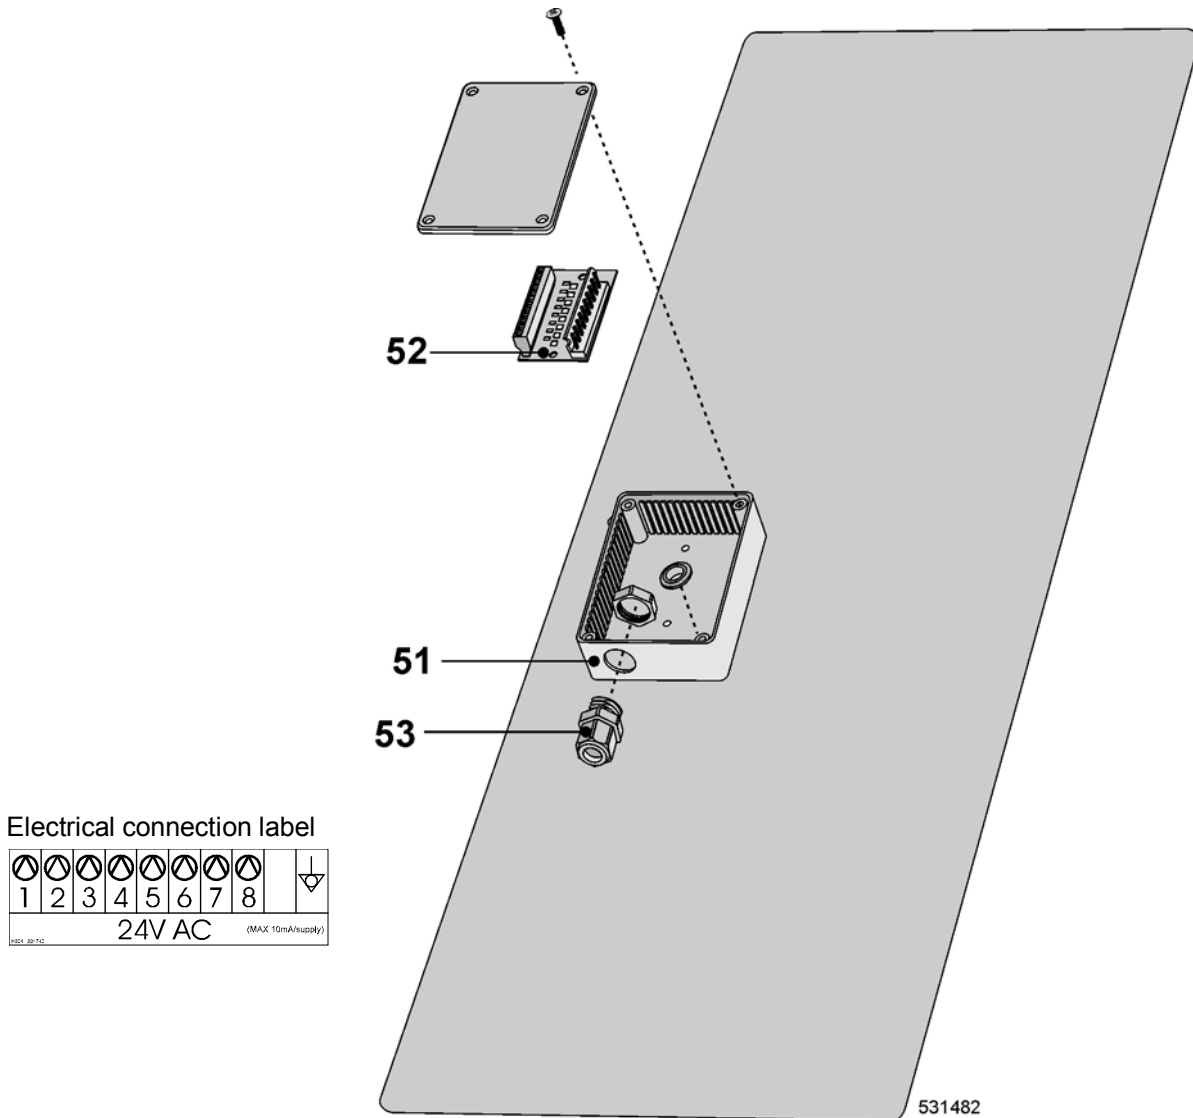

Figure 8.4.H.
For electric connection of supply control signals a plastic box is available on the upper stand of the machine (see Figure 8.4.H., pos.51) with the terminal box with LED signalization of activation of the respective pump, (pos.52). Under the terminal box there is a label for electric connection, Figure 8.4.H. Detail connection of signals could be also found on the electric scheme of the machine. Signals for supply pumps control are 24V AC. Maximum current for control circuits of pumps must be limited to 10mA. Lead the cable for connection of pumps control signals through the plastic cable bushing, position 53. After connection of conductors to the respective positions of the connector "P" (screw clamps), fix up the cable by tightening the cable bushing) against disconnection and close the box with the cover. For details about liquid soap supply system programming, see Programming manual.